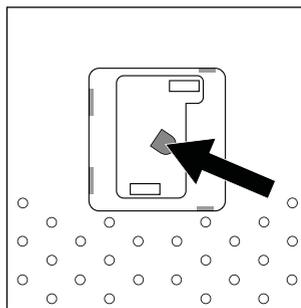

Fig. 2
3. The lens of the particle sensor is located on the left (see fig. 2). Clean it with a dry cotton swab or a soft, dry cloth.